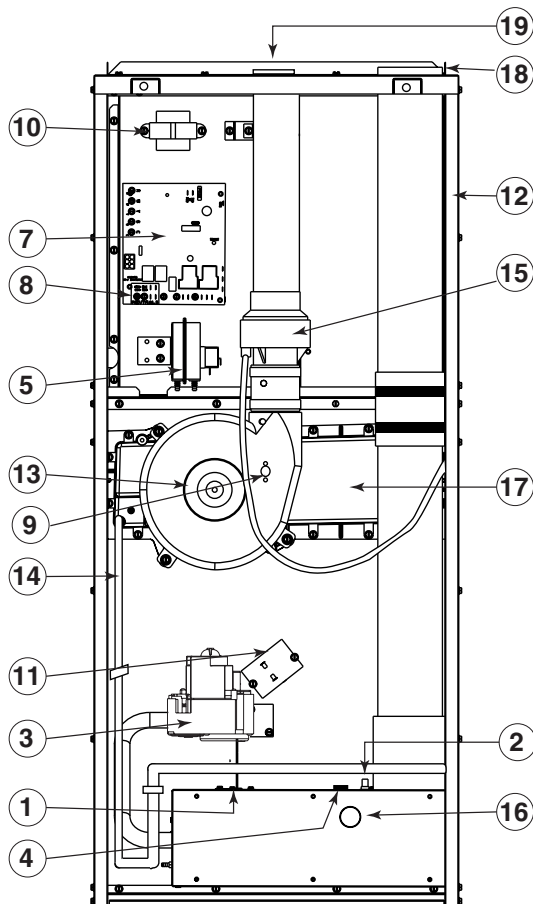

Figure 30. Location of Major Components
If the furnace locks out after 5 attempts for ignition, it will try again every hour if a call for heat remains. If the inducer and circulating air blowers are operating, and items 1 through 8 have been checked, press the red reset button on the vent safety switch. (See Figure 30.) If the furnace operates after depressing the reset button, contact a qualified serviceman to identify and repair the problem.
If the furnace continues to not operate, depress the red reset buttons on the flame rollout switches. (See Figure 30.) If the furnace operates after depressing the reset buttons, contact a qualified servicemen to identify and repair the problem.